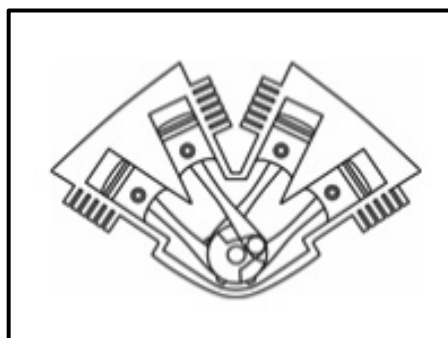

FIGURE 4.4
4.4 Which engine configuration is shown in FIGURE 4.4 below?